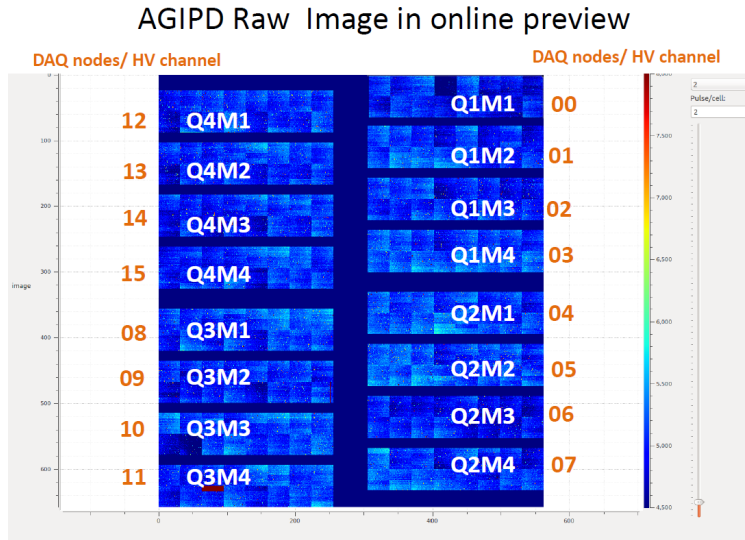

Fig. 1.3: Preview of the modules, including the xfel notation and daq nodes/ HV channels.
- Check preview for the state of the modules (compare to the printout above the screens, Fig. 1.3)-> Is it Ok?